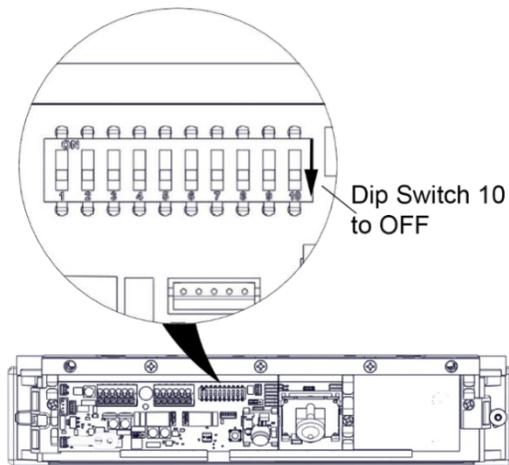

Figure 45. Setting Dip Switch 10 to OFF
6. SET Dip Switch 10 to “OFF” (see Figure 45, “Setting Dip Switch 10 to OFF”).